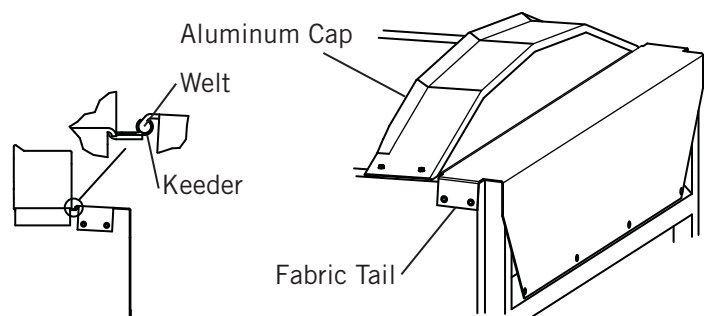

Figure 22
3) Figure 22. Insert welt on tail into Keder on back of cap and center on width. Use light oil to slide welt in keder.